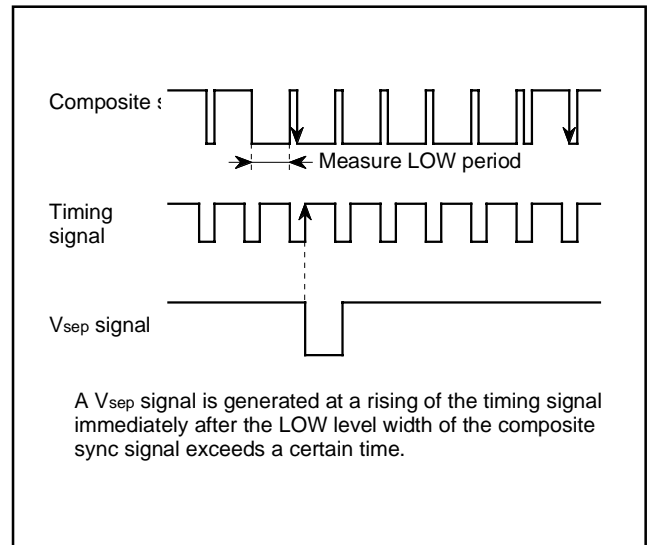

Fig. 8.10.6 Vsep Generating Timing (method 2)
- Method 2 The LOW level width of the composite sync signal is measured. If this width exceeds a certain time, it is detected whether a falling of the composite sync signal exists or not in the LOW level period of the timing signal immediately after this LOW level. If a falling exists, a Vsep signal is generated in synchronization with the rising of the timing signal (refer to Figure 8.10.6).
Figure 8.10.6 shows a Vsep generating timing. The timing signal shown in the figure is generated from the reference clock which the timing generating circuit outputs.